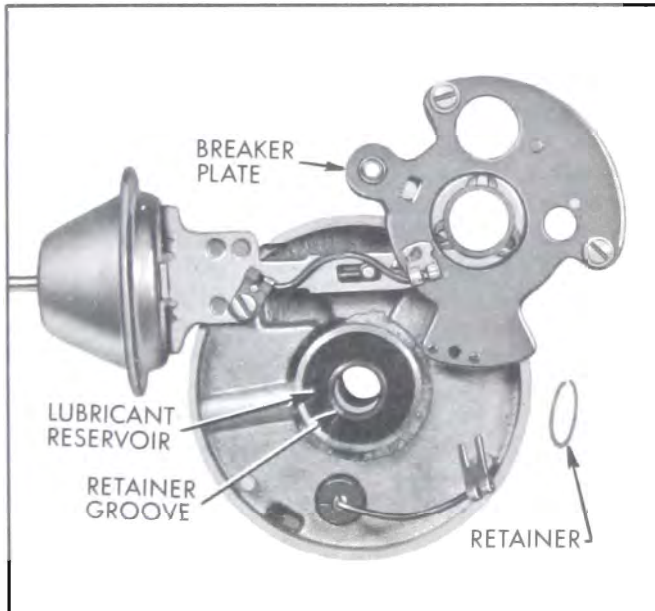

Figure 10-41—Installing Breaker Plate and Retainer
2. Install felt washer over upper bushing and apply a few drops of light oil. Then place breaker plate over upper bushing and vacuum advance link. Install retainer on upper bushing. See Figure 10-41.